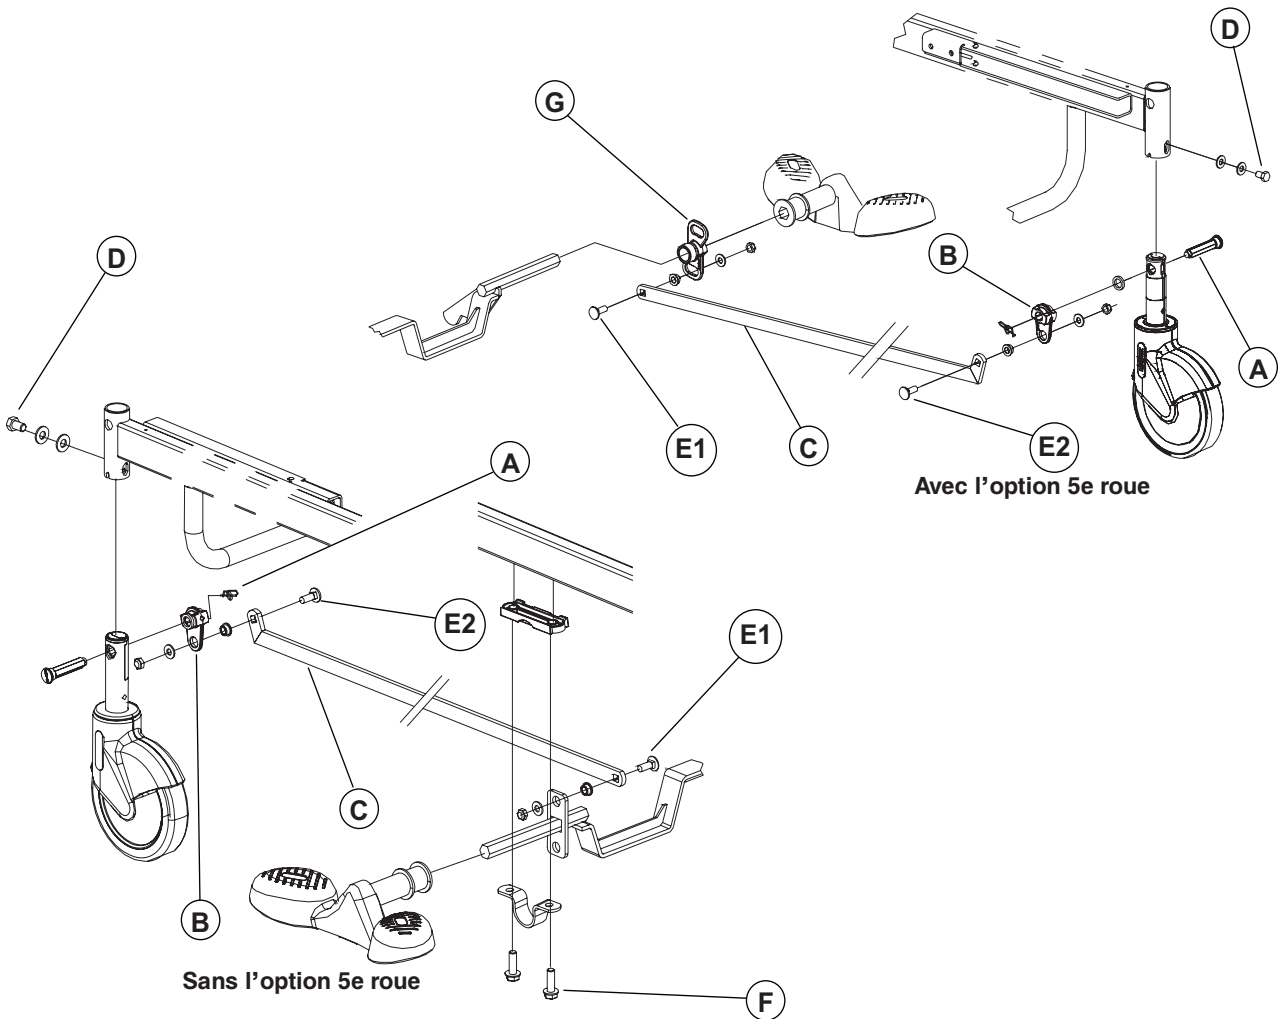

Figure 4.4 B
5. Using the 3/8" Drive Ratchet and the 1/2" socket, remove the four bolts (A) holding both fifth wheel supports to the base. Keep the molded spacers (B). Remove the assembly.
7. Remove and keep the two locking levers (G, Figure 4.4 B, pg. 67).